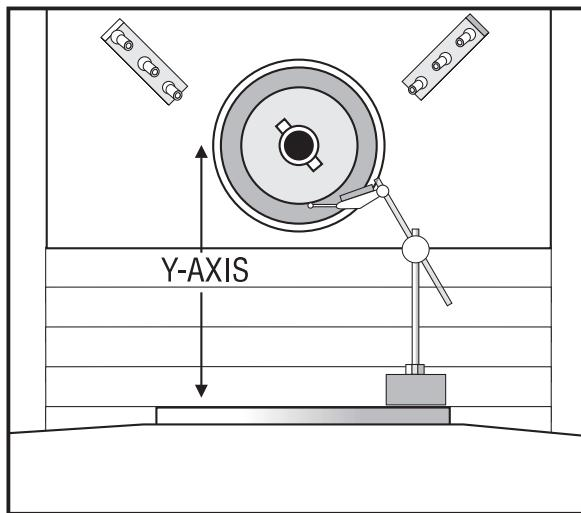

Figure 1-2. Dial indicator in position to check Y-axis.
1. Set up a dial indicator and base on the mill table as shown in Fig. 1-2.